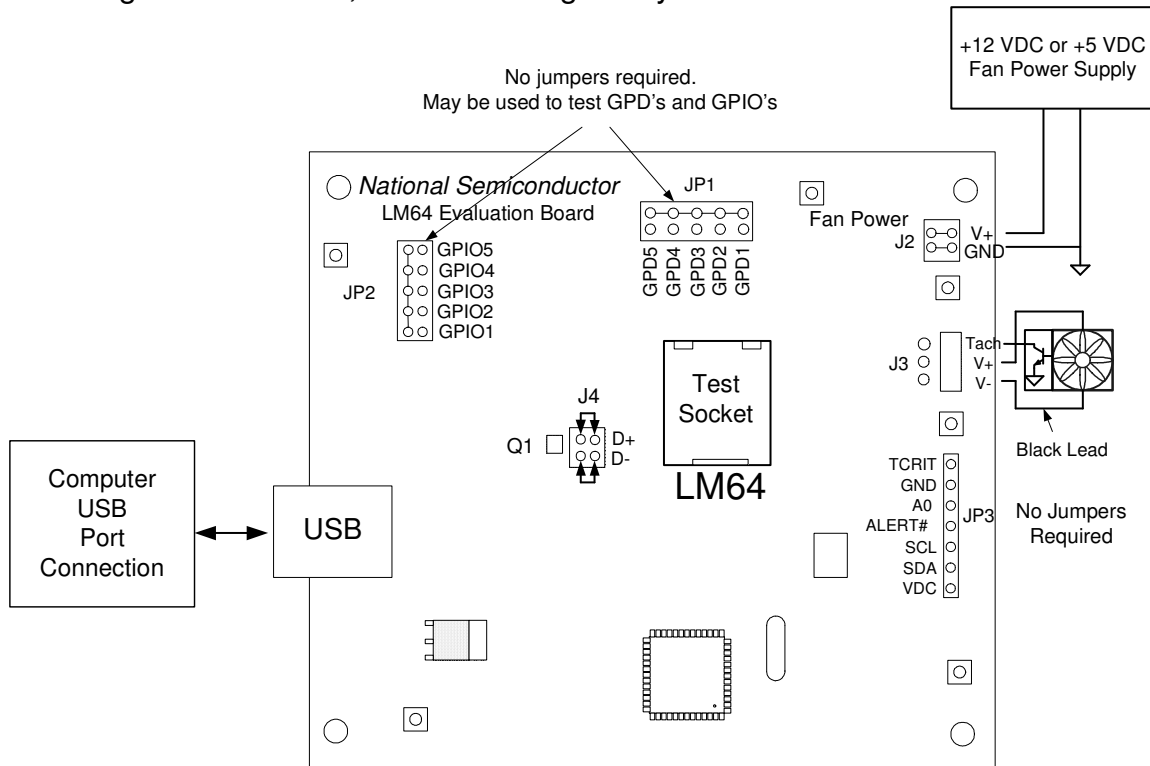

Figure 2. Test Setup using the LM64 Evaluation Board
Figure 2 below shows an example of a typical LM64 Evaluation Board test setup for driving fans, attaching remote diodes, and monitoring the system.
2. Connect the power supply to the LM64 Evaluation Board jack J2 as shown in Figure 2. Make sure that the positive terminal is connected to V+ and the negative terminal is connected to the GND of J2.
3. Plug in the fan as shown in Figure 2. This pinout is standard for PC processor fans.